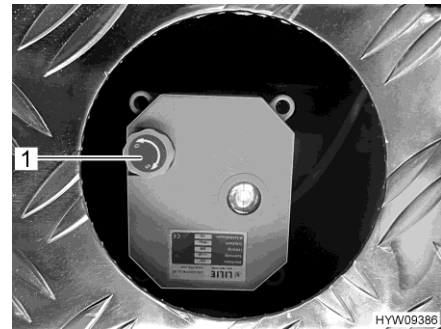

Fig. 213 Handwheel (waste water valve)
- To open the waste water valve, pull handwheel (Fig. 213,1) upwards and turn in an anticlockwise direction as far as it will go. The direction of rotation (O for opening, S for closing) is marked on the handwheel.
- To close the waste water valve, pull handwheel (Fig. 213,1) upwards and turn in a clockwise direction as far as it will go.